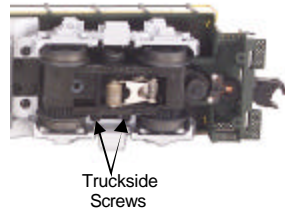

Figure 8. Truckside Mounting Screws to Access the Traction Tires
First, remove the truck sides from the truck block. To do this, turn your engine upside down. If there are visible Phillips screw heads between the truck frame and truck block (see Fig. 8), go to step A. If not, go to step B.
B. Remove the trucks from the chassis and the truck sides from the trucks in order to slip the new tire over the grooved drive wheel. See Fig. 8 for which screws you must remove to do this.